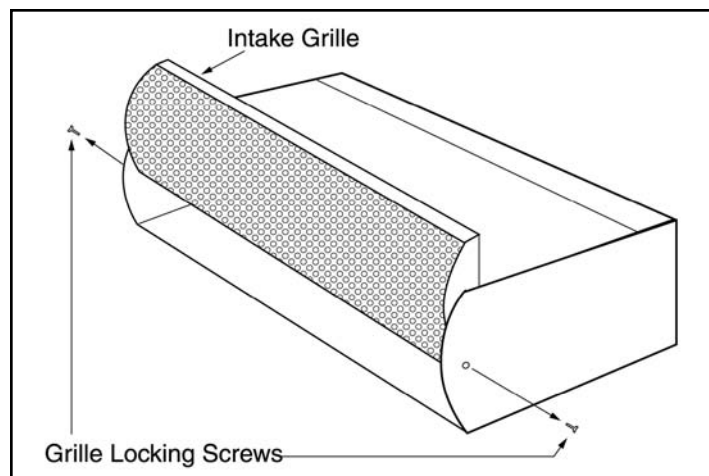

FIGURE 10- Intake Grille Removal
- A. Disconnect the power to the unit; remove the intake grille by removing the locking screws on each end of the unit. Lift the intake grille up and then towards you. **See Figure 10.**